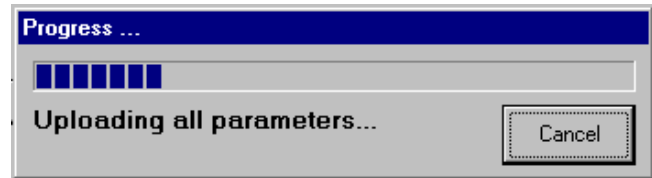

Fig. 13.11
10. A Progress meter appears and continues to display until the backup is complete. See Fig. 13.11.
**NOTE:** The backup can be terminated by pressing Cancel on the Progress meter (Fig. 13.11).